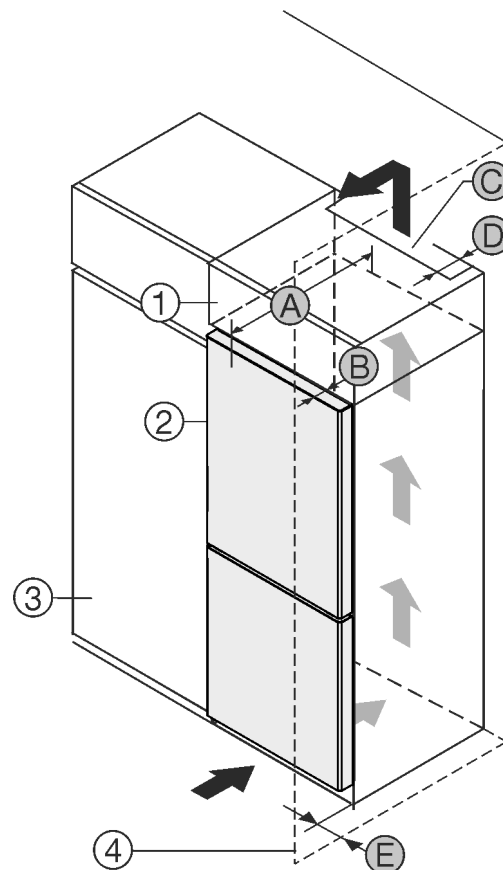

Fig. 1
You can place the appliance directly beside the kitchen cabinet Fig. 1 (3).*
There must be a ventilation shaft at the depth Fig. 1 (D) of the back of the top cupboard over the entire width of the top cupboard.*
The ventilation cross-section *Fig. 1 (C)* must be maintained under the ceiling.*
If the appliance is set up with the hinges next to a wall *Fig. 1 (4)*, the distance between the appliance and the wall must be at least 13 mm.*
If the appliance is set up with the hinges next to a wall *Fig. 1 (4)*, the distance between the appliance and the wall must be at least 20 mm.*
In order to be able to fully open the door, the appliance must protrude by the depth of the door *Fig. 1 (B)* from the front of the kitchen cabinet. The appliance may protrude further depending on the depth of the kitchen cabinets *Fig. 1 (3)* and whether wall spacers are used.*